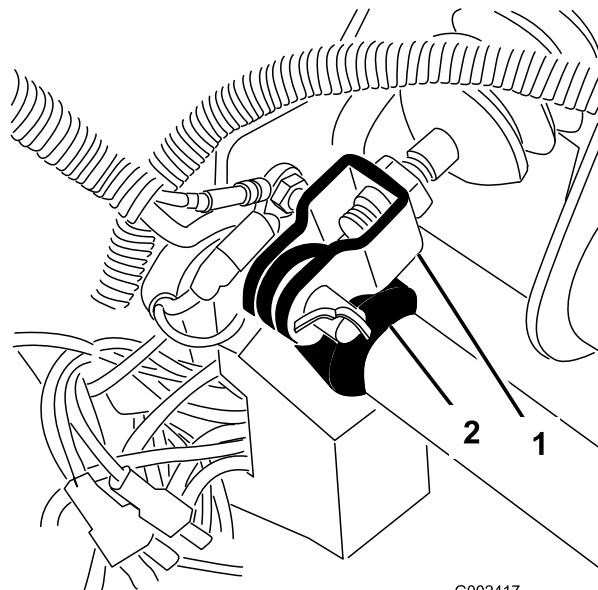

Figure 66
1. Remove the cotter pin and clevis pin securing the master cylinder yoke to the brake-pedal pivot (Figure 66).